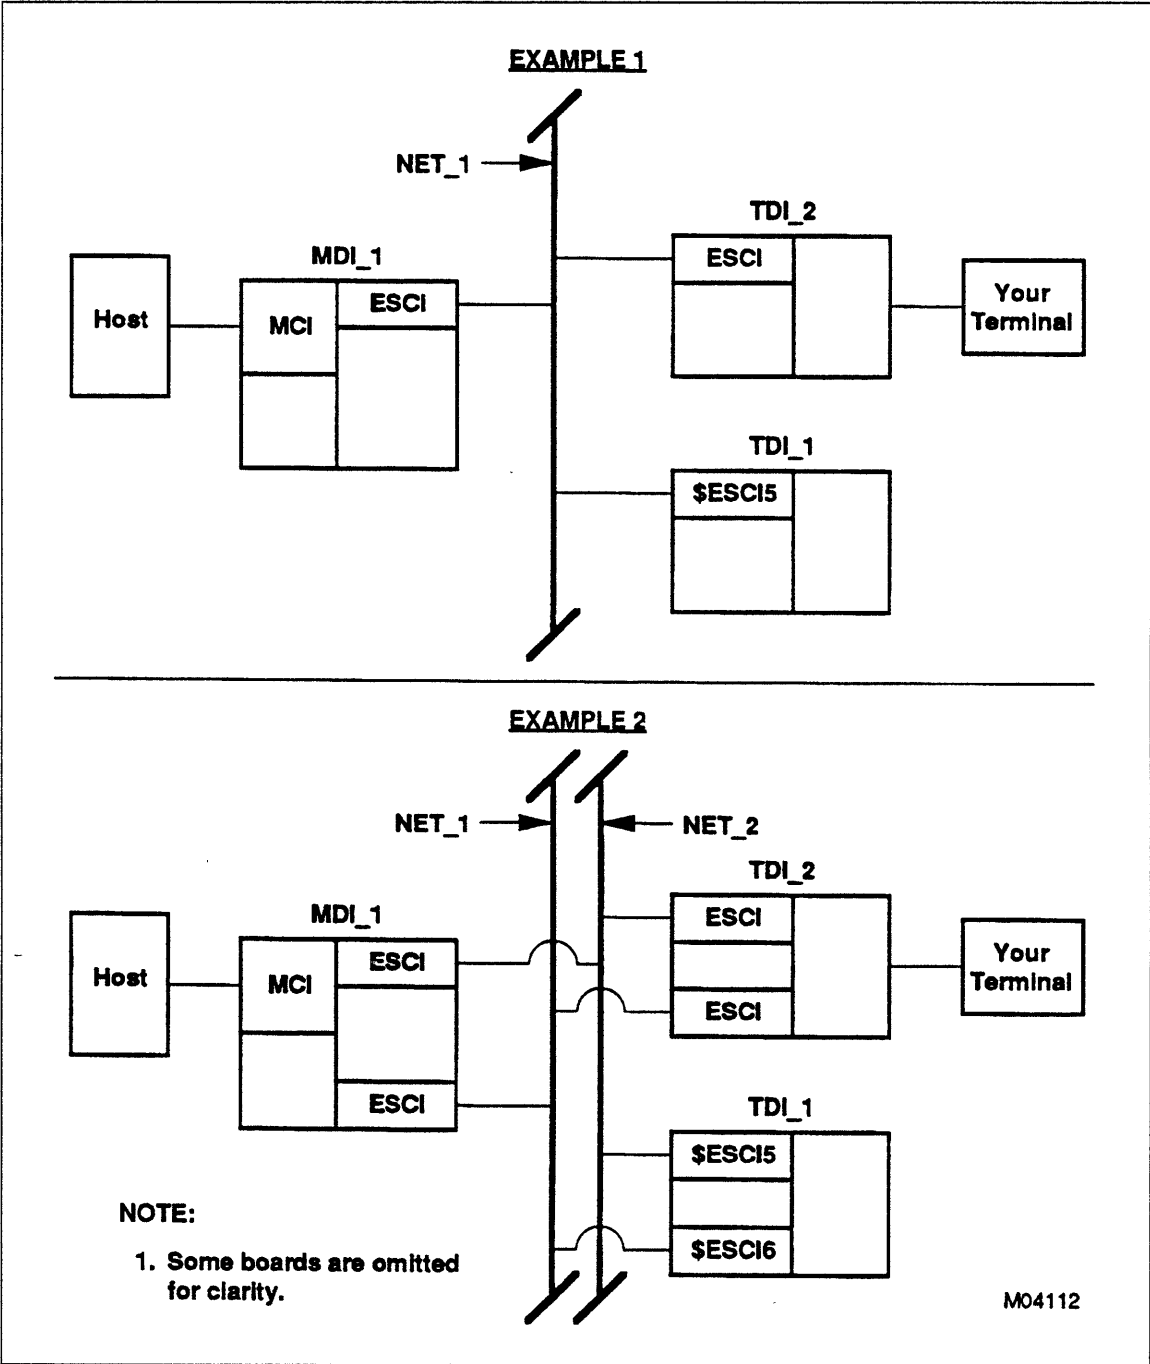

Figure 6-20. Example Network for ESCI Test
1. You cannot use the ESCI test unless both your DI and the target DI have a path to NETOU other than through the network connecting to the ESCI under test (see figure 6-20). The alternative path can be an MCI, LIM port, or another ESCI.
Figure 6-20 shows two possible network configurations. In example 1, you cannot test \$ESCI5 in TDI_1, because stopping NET_1 breaks the path to NETOU for both you and the ESCI to be tested. However, example 2 shows a redundant network configuration in which stopping one network still leaves a path to NETOU through the other. In example 2, You could test \$ESCI5 in TDI_1 by using the commands given in the previous topic, NETOU Command Summary for ESCI Online Test. You could also use the equivalent CML/VE or CMSI menu selections.